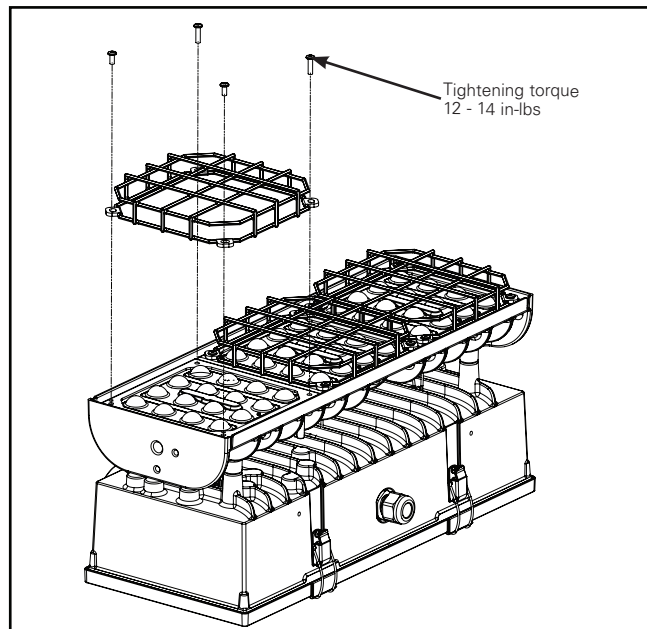

Figure 13.
Wire Guard (Figure 13)
1. Loosen and remove the existing (4) 8-32 torx screws on the face of the fixture (Fig 13).
3. Use (4) 8-32 philips screws provided to tighten the wireguard in place onto each LED square.